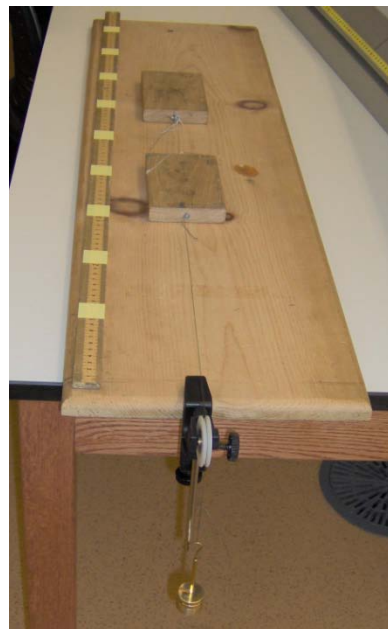

Figure 6
1. You will have a large wood board, pulley/clamp, masses and two wood blocks at your lab table. Weigh the wood blocks using the mass scales and note the result in your lab journal. Let the wood board hang (about 2 inches) over the edge of the lab table and clamp the pulley to the end of the wood board. Tie a length of string onto the wood blocks and tie the other end to the mass hanger. In this experiment, you will be using a mass hanger (50 grams) and adding masses to it. Run the string over the pulley. Place both blocks flat onto the wood board. Place a meter stick next to the wood board in order to set the scale. See Figure 6.
5. Now place both blocks onto the wood board as shown in Figure 6. Position the camera above the blocks so you can capture the motion of the blocks. Add about 20 grams more mass to the mass hanger than was required to just move the blocks. **(CAUTION – do not allow the blocks to hit the plastic pulley. This will damage and break the pulley.)** You want enough mass to accelerate the blocks. Capture the motion of the blocks to video.